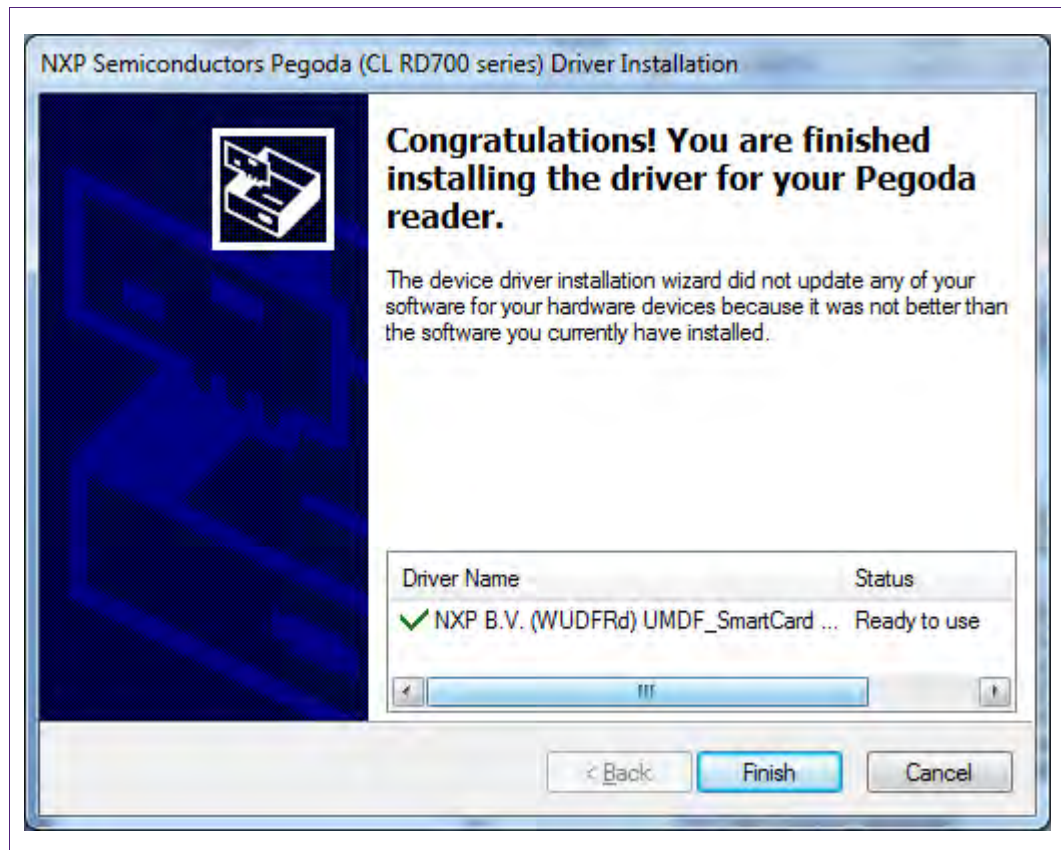

Fig. 4 Wizard Finished
- 5) The driver has been installed now. As a result of a successful installation the confirmation dialog as shown in Fig. 4 will be shown.